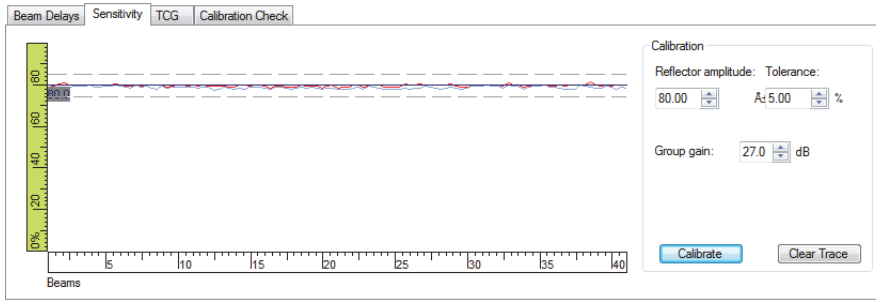

Figure 4-23 Curves for the sensitivity calibration
8. Perform a new scan above the reference reflector on the calibration block to validate the calibration by confirming that the red line appears within the tolerance lines (Figure 4-23 on page 120).